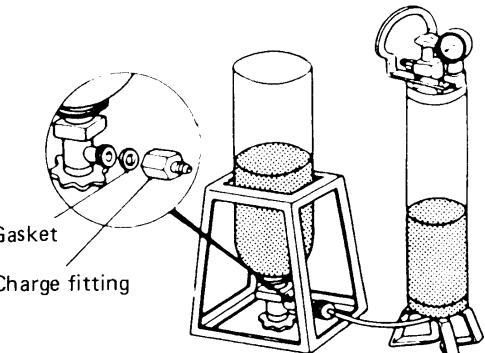

Fig. D-18
- 1) If cylinder has not yet been filled, move at least one pound of refrigerant (R22) to the charging cylinder. Fig. D-18.